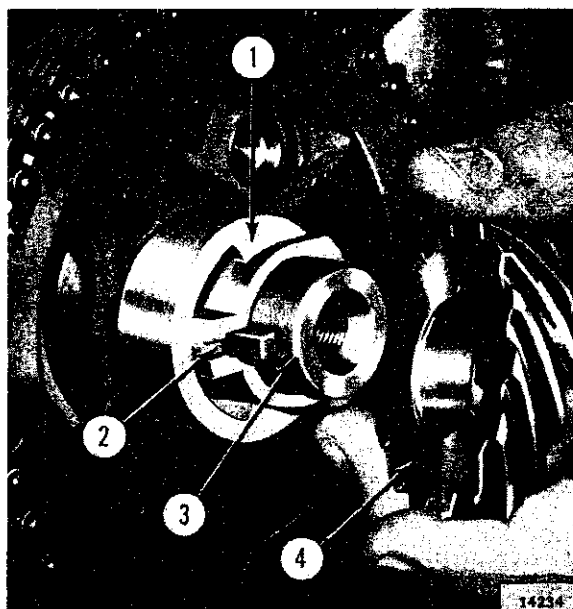

FIG. D1-40—FUEL PUMP ECCENTRIC AND DISTRIBUTOR DRIVE GEAR
- e. Install fuel pump eccentric on camshaft and key with oil groove of eccentric forward. See Fig. D1-40.